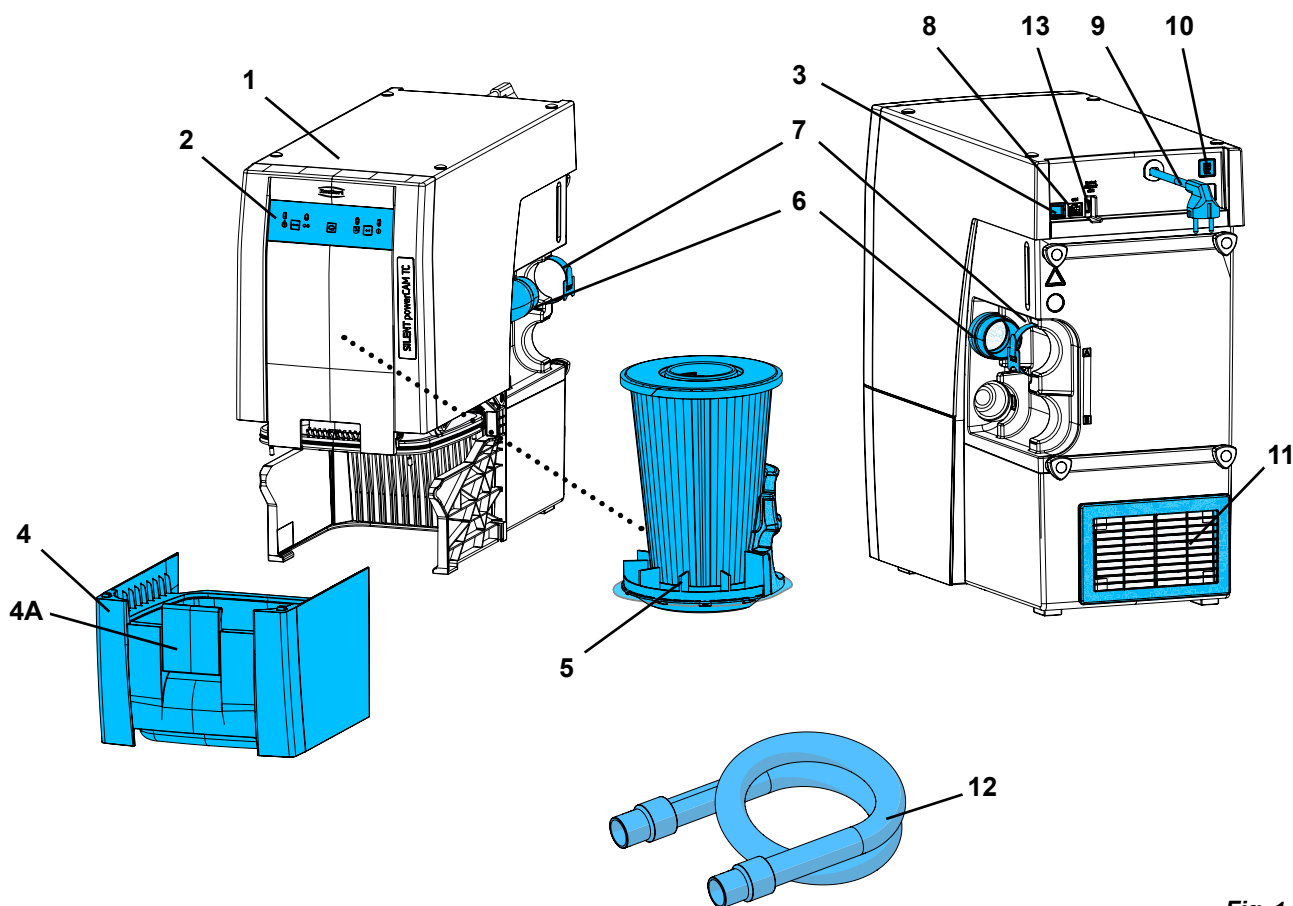

Fig. 1
- The exhaust air outlet (11, Fig. 1) is not blocked.
- External air duct (A) (see Chap. 4.6).
- Opening in the rear panel of the cabinet (B), min. 250 x 120 mm, directly opposite the exhaust air outlet (11, Fig. 1).
- Remove the rear panel of the cabinet (C), distance from the rear of the cabinet to the wall min. 50 mm.
- ⇒ Switch the unit off at the on / off switch (3, Fig. 1).
- ⇒ Unroll the power cord (9, Fig. 1) and insert the power plug into a building electrical socket.